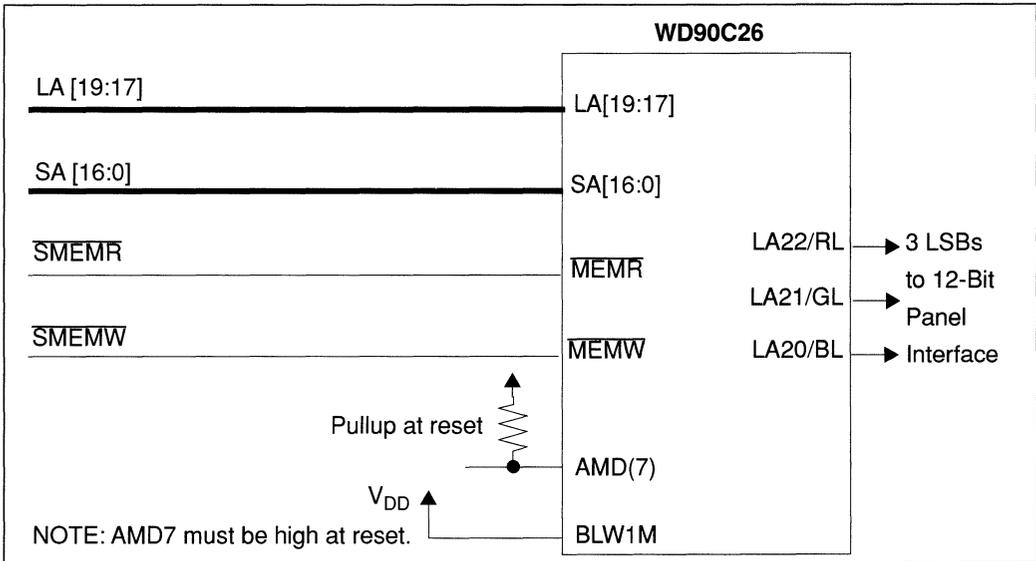

FIGURE 6-26 USING MEMR AND MEMW WHEN CONNECTING A 12-BIT RGB PANEL INTERFACE
- Using $\overline{\text{SMEMR}}$ and $\overline{\text{SMEMW}}$ when Connecting a 12-Bit RGB Panel Interface (Figure 6-26)